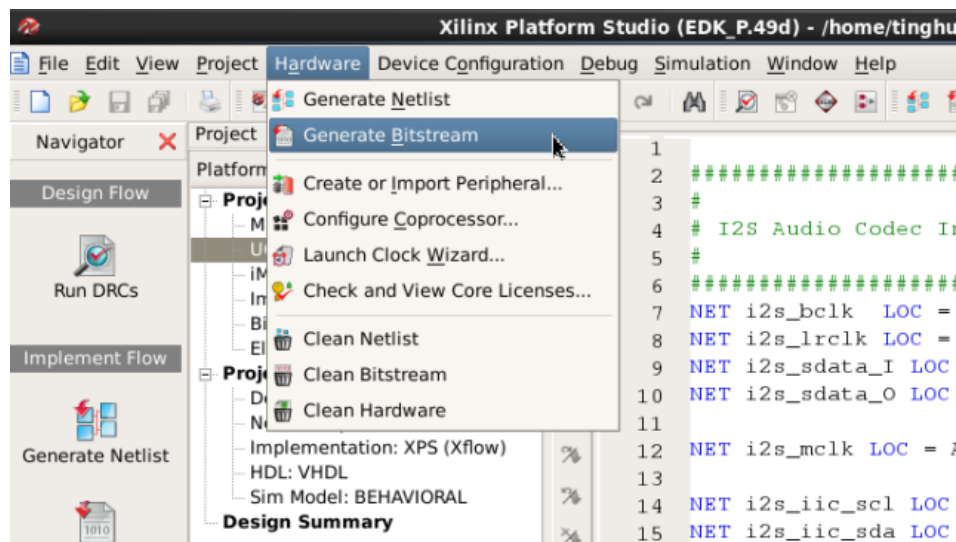

Figure 25. Generate Bitstream
**I-21** Regenerate the bit stream for the hardware design by clicking on **Hardware -> Generate Bitstream**, as shown in Figure 25.